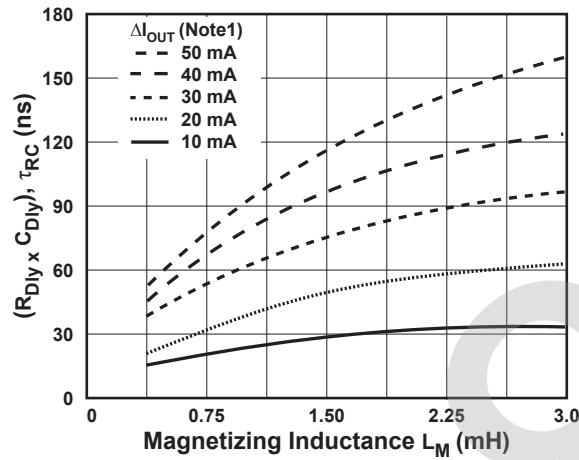

Figure 12.7 :  $T_{ON}$  Compensation Chart  $R_{DS(ON)} = 55 - 250 \Omega$
2. Find the curve that best matches this difference from Figure 12.7.